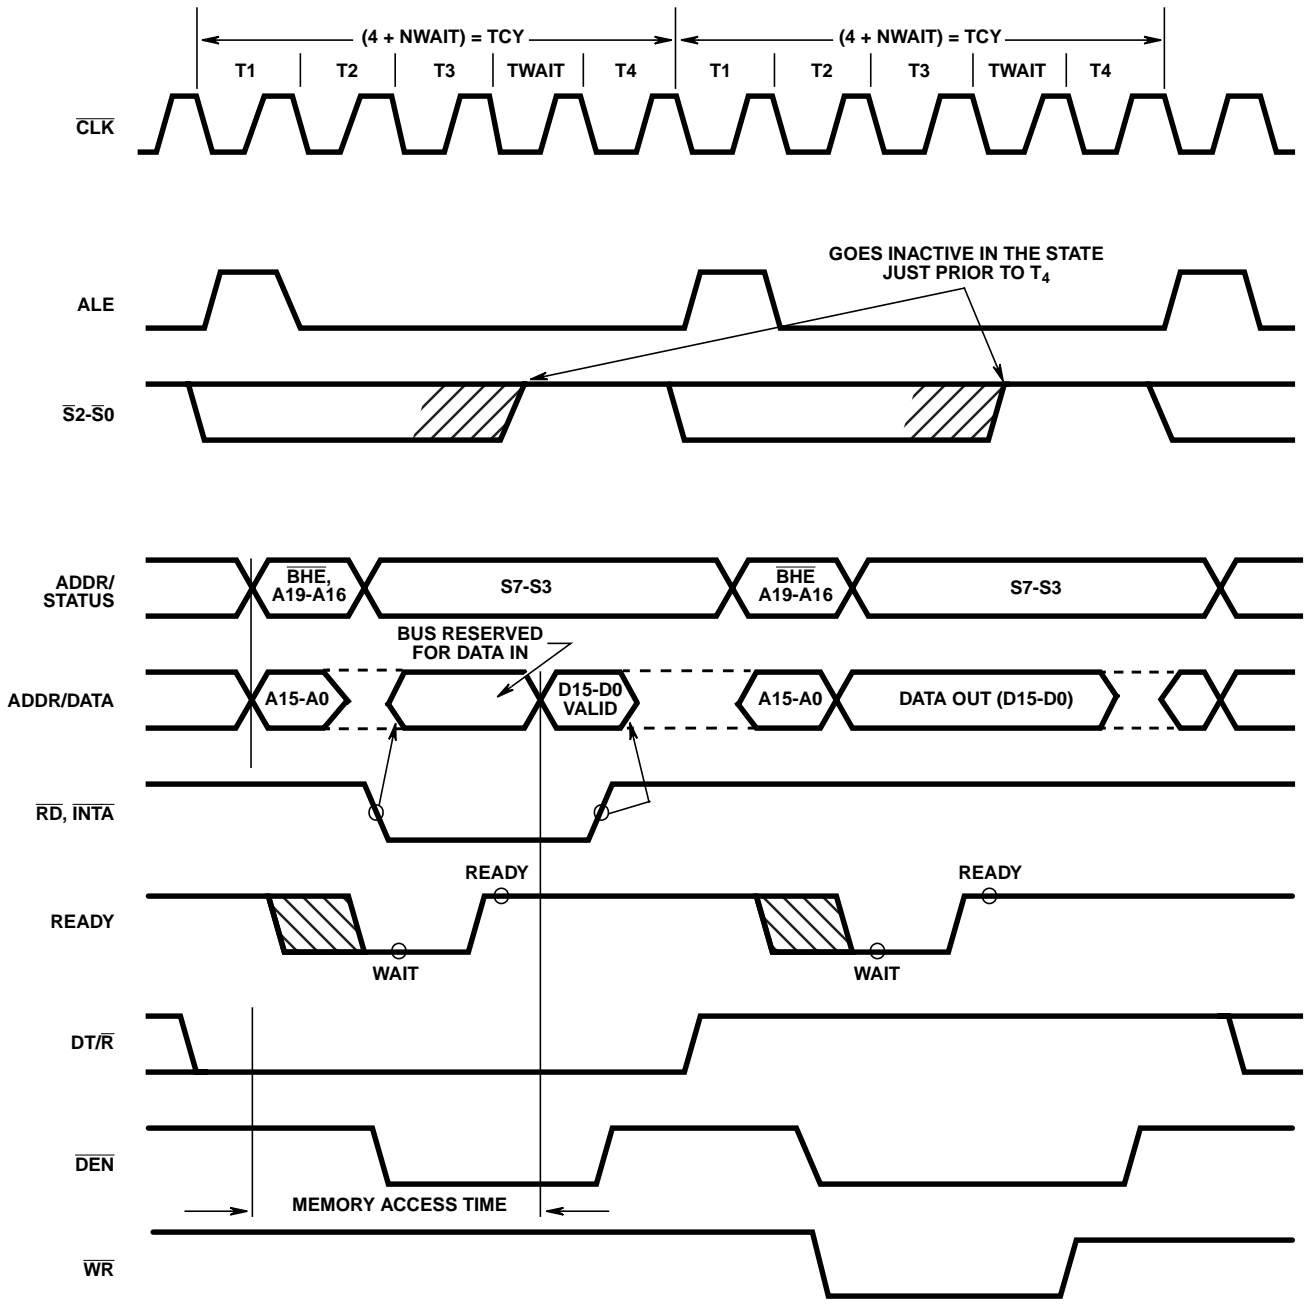

FIGURE 3. BASIC SYSTEM TIMING
Each processor bus cycle consists of at least four CLK cycles. These are referred to as T1, T2, T3 and T4 (see Figure 3). The address is emitted from the processor during T1 and data transfer occurs on the bus during T3 and T4. T2 is used primarily for changing the direction of the bus during read operations. In the event that a "NOT READY" indication is given by the addressed device, "Wait" states (TW) are inserted between T3 and T4. Each inserted wait state is the same duration as a CLK cycle. Periods can occur between 80C86 driven bus cycles. These are referred to as idle" states (Ti) or inactive CLK cycles. The processor uses these cycles for internal housekeeping and processing.
Typical system configurations for the processor operating in minimum mode and in maximum mode are shown in Figures 6A and 6B, respectively. In minimum mode, the MN/MX pin is strapped to VCC and the processor emits bus control signals (e.g. RD, WR, etc.) directly. In maximum mode, the MN/MX pin is strapped to GND and the processor emits coded status information which the 82C88 bus controller uses to generate MULTIBUS compatible bus control signals. Figure 3 shows the signal timing relationships.